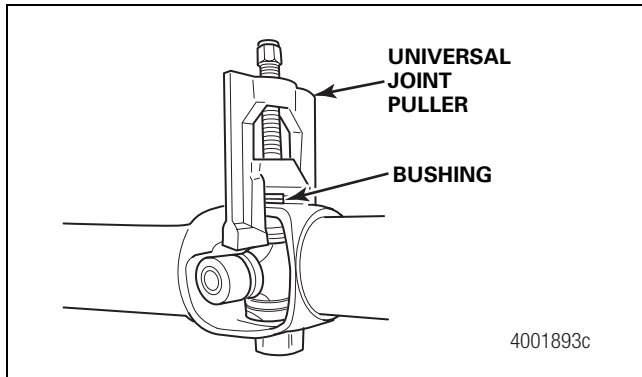

Figure 8.13
1. Position the universal joint in a suitable universal joint puller. Refer to the Service Notes page on the front inside cover of this manual for information to obtain this tool. Figure 8.13.